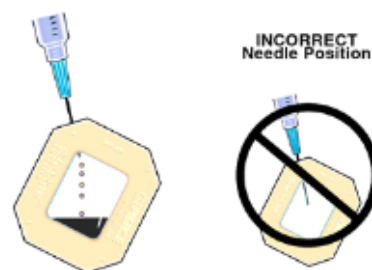

Figure 2. Sample addition
3. Inject sample slowly. Withdraw air by pulling up on the syringe piston (Figure 2).